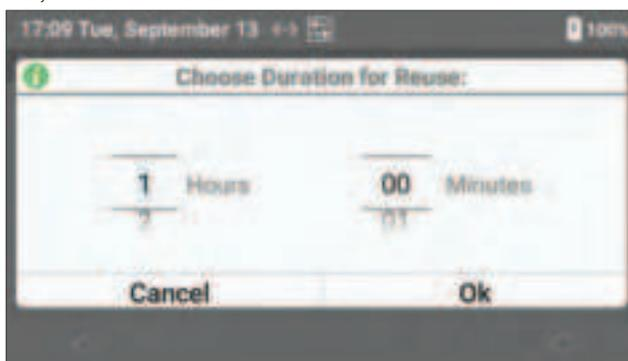

Figure 39: PID Reuse Duration
- 2 In the dialog box (*Figure 39*), scroll the **Hours** and **Minutes** to select the duration. The minimum duration is 1 hour; maximum is 240 hours.